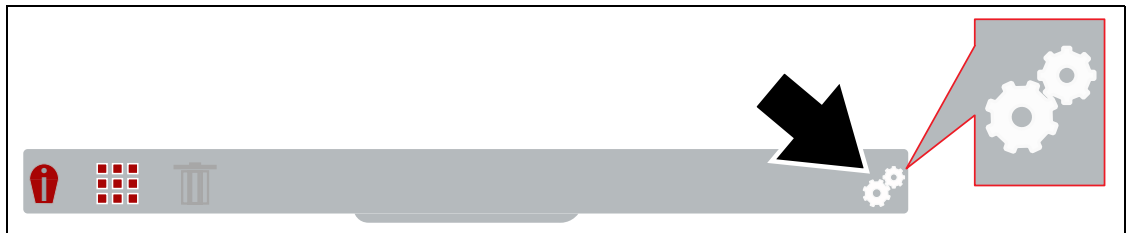

Figure 5-2
2. Use the **Left / Right** control buttons to select the **Settings** icon from the toolbar (Figure 5-2).